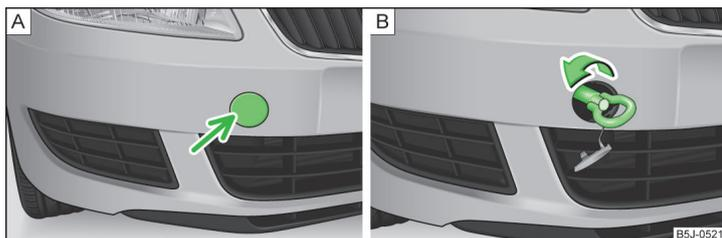

Fig. 148 Removing the cap / installing the towing eye
- Press on the left half of the cap in the area of the arrow » Fig. 148 - A.
- Screw the towing eye in clockwise by hand up to the stop » Fig. 148 - B. For tightening purposes, we recommend, for example, using the wheel wrench, towing eye from another vehicle or a similar object that can be pushed through the eye.